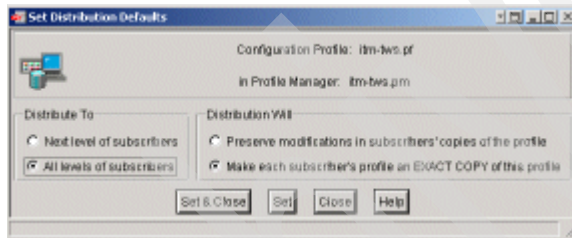

Figure 9-109 Setting distribution defaults for itm-tws.pf profile
10. In the Distribute To group, select **All levels of subscribers**. In the Distribution Will group, select **Make each subscriber's profile an EXACT COPY of this profile**, as shown in Figure 9-109.